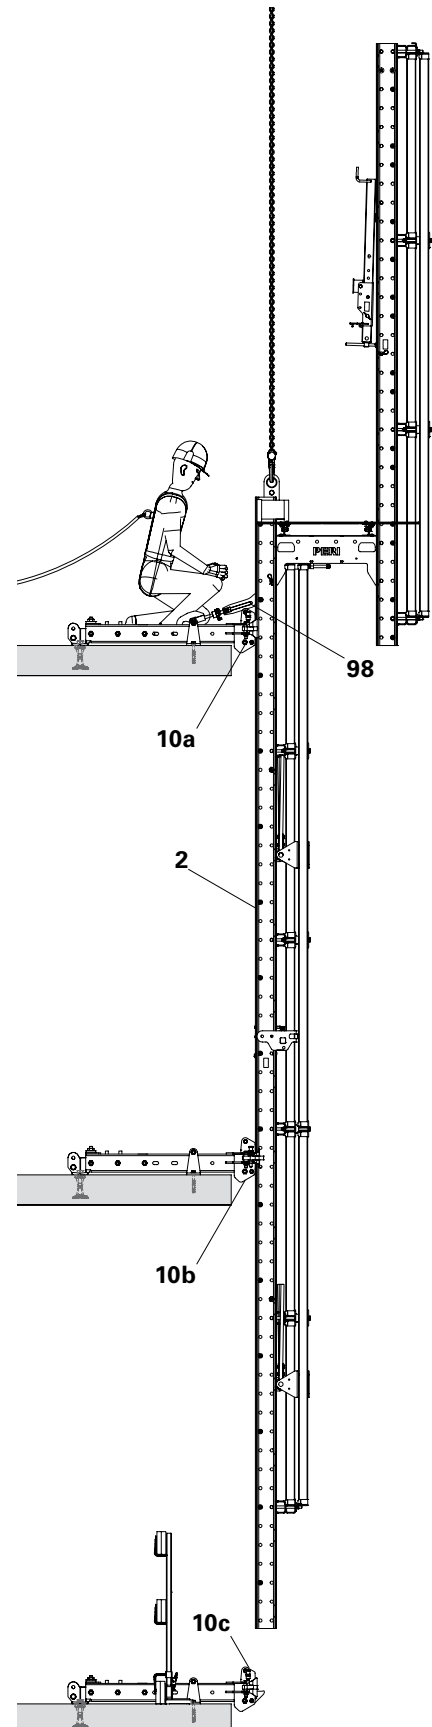

Fig. D4.03a
2. Insert Climbing Rail (2) into the top Climbing Shoes (10a) using the Guide-In Tool (98).
3. Close the guiding skids of the top Slab Shoe. Climbing pawl remains deactivated. (Fig. D4.03a)